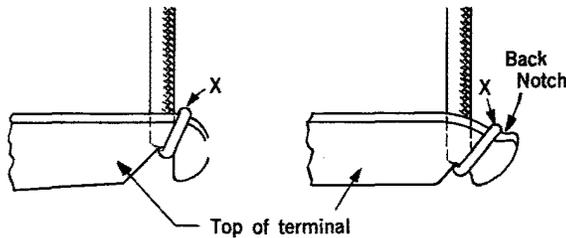

Fig. 9 - Termination of Wire on Horizontal Terminal Having a Single Notch (Top View)
8.12 To terminate a wire on a terminal which is in a horizontal position (such as vertical IDF) having a single notch (either with or without back notch), bring the wire along the bottom of the terminal, through the notch, back along the top of the terminal, and terminate at the back, or back notch where provided, as shown in Fig. 9. Cut or break the excess wire at point "X". 20-gauge wire should be cut instead of broken.